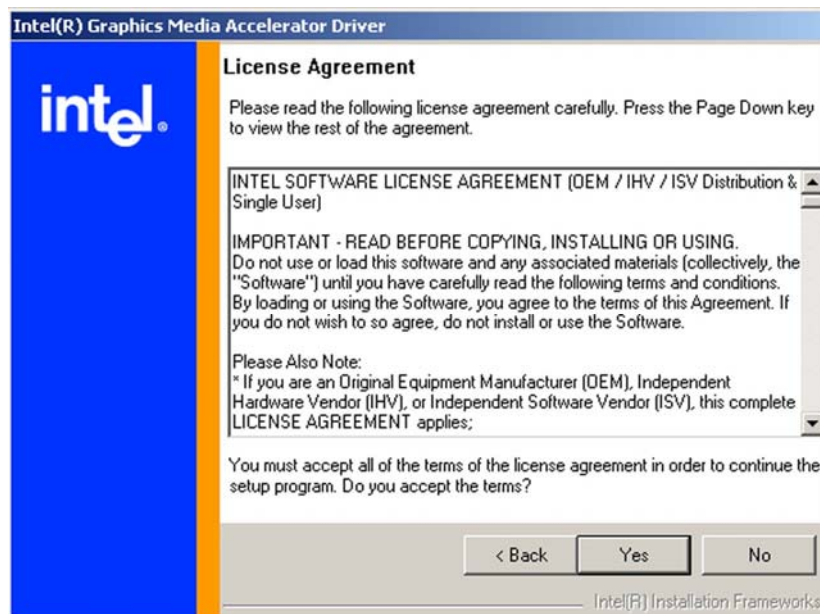

Figure 6-9: VGA Driver License Agreement
Step 6: A license agreement shown in Figure 6-9 appears. Read through the license agreement.
Step 7: Accept the terms and conditions stipulated in the license agreement by clicking the “**YES**” button (Figure 6-9). The installation notice shown in Figure 6-10 appears.